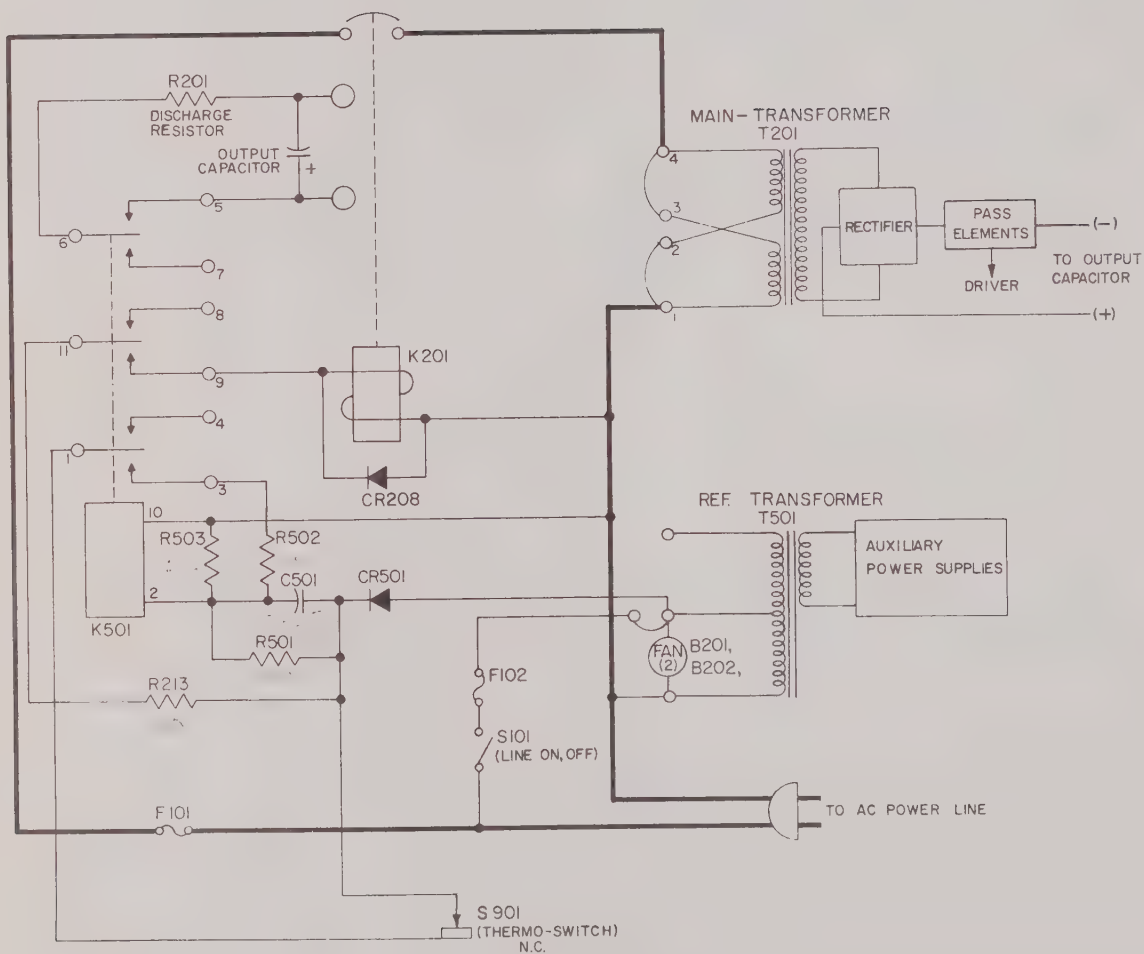

FIG. 4-3 AC INPUT CIRCUIT
4-5 AC Input Circuit. (Refer to Fig. 4-3) AC power is introduced to the unit through a heavy duty three-wire safety cord with three-prong plug. When AC line switch S-101 is closed, C501 which was completely discharged, will charge and its instantaneous peak charging current will close K501 and thereby energize power relay K201. The contacts of K201 connect line power to the primary of T201. The relay holding current flows now from the cathode side of CR501 over thermo-switch S-701, over relay contacts (1) and (3), through R502 and finally through the coil of K501. C501 will not completely discharge since the charging potential is still connected. Consequently, when thermo-switch S-701 is opened by over-temperature, the current path through the coil of K501 is interrupted. It's energized state can only be re-established if S-101 is opened for a few seconds, thus removing the charging potential from C501 and allowing it to discharge. If S-101 is now closed again and the cause for the over-temperature is corrected, allowing S-701 to assume it's normally closed position again, recycling of the above described sequence takes place. The primary circuit is further protected from overloads by main-fuse F101 and reference fuse F102.